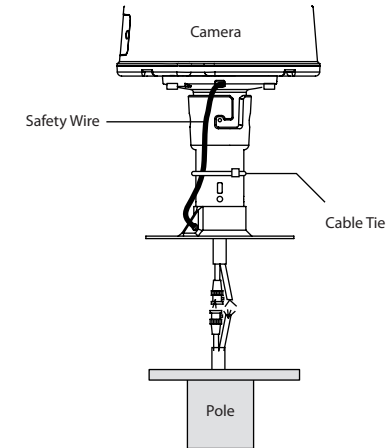

FIG. 4
- Install 4 pieces of Anchor bolt in the Ø13 holes at the edge and connect the cables. (FIG. 4)